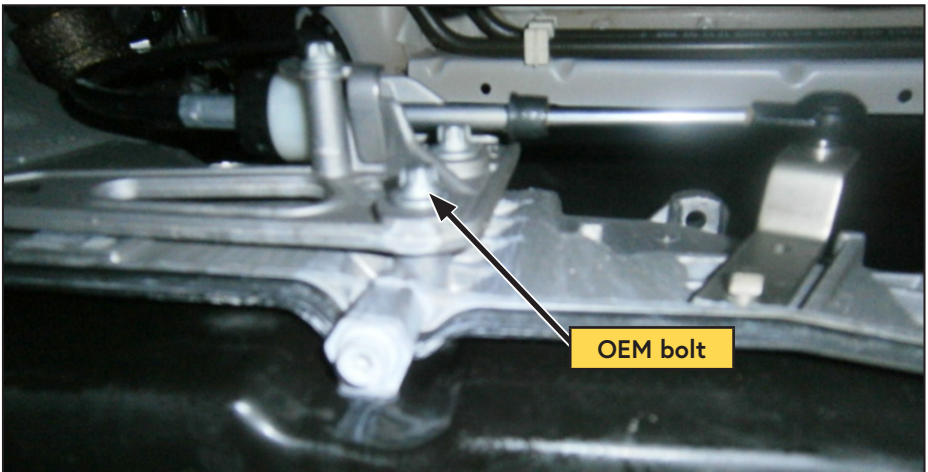

Figure 38 — Remove shift linkage bolt
- Remove the lower OEM bolt from the shift bracket mounted on the driver side of the bell housing (Figure 38).